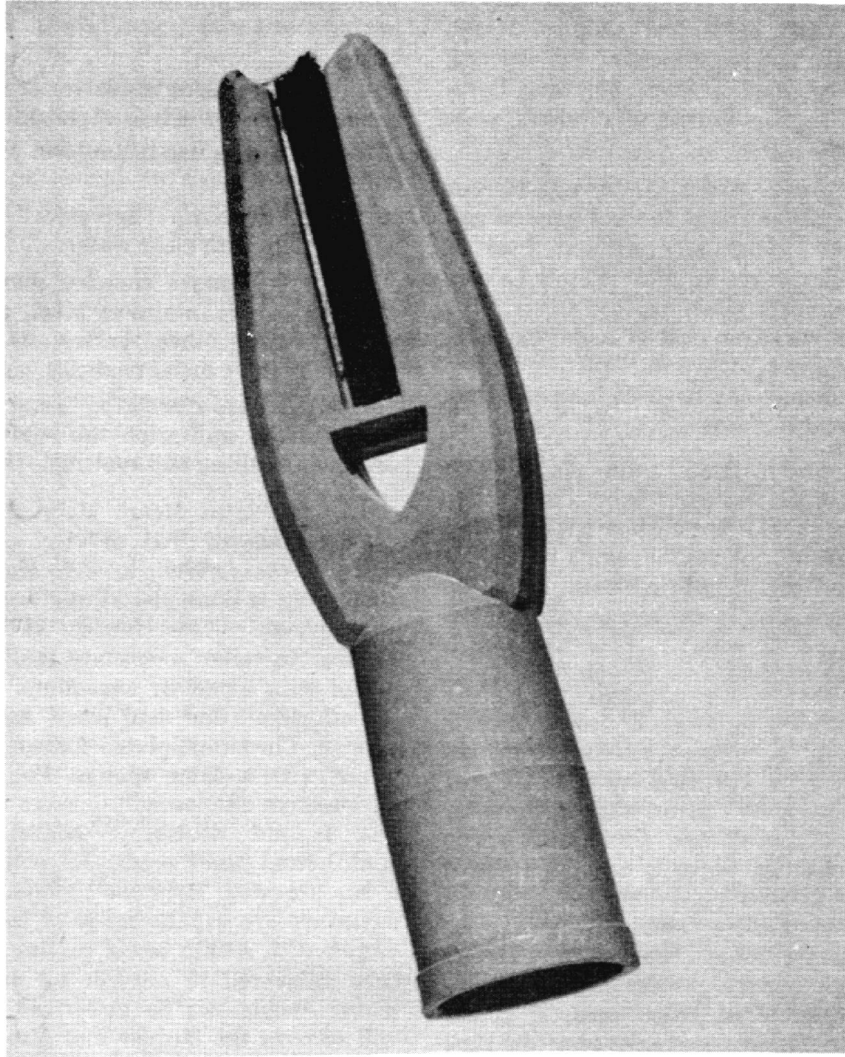

Figure 23. Venetian Blind Cleaning Attachment.
3.5.1.6 Venetian Blinds. Venetian blinds are generally painted with waterproof enamel and may be washed. Usually, they may be cleaned in place with a vacuum attachment (fig. 23) or by using a sponge dampened in all-purpose synthetic detergent solution. Turn slats flat, and clean one side. Wipe with a clean, soft cloth. Turn slats with opposite sides facing, and flat. Repeat process. Avoid getting straps wet. If slats are very dirty, and dirt is hard to remove, take blind down and wash each slat